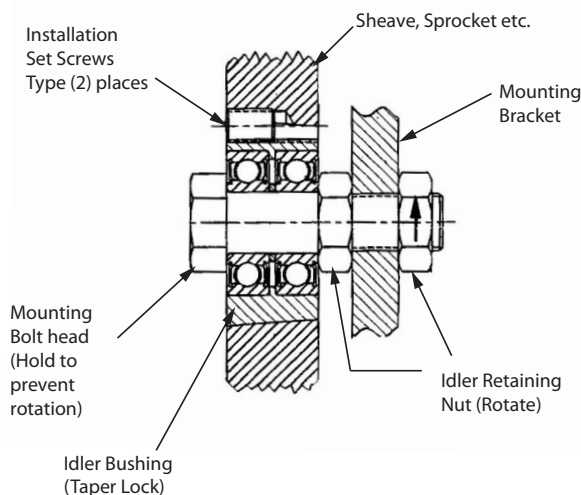

Figure 1 -- Preferred Assembly TAPERLOCK Bushings
3. Hold the mounting bolt stationary to prevent rotation and tighten idler retaining nut as shown in Figure 1.